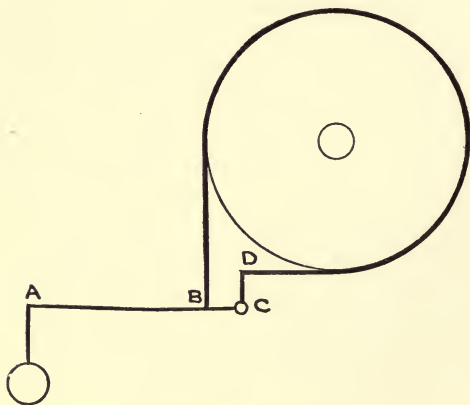

Fig. 1.
1. Fig. 1 represents a band brake operated by a bent lever  $ACD$  pivoted at the point  $C$ .